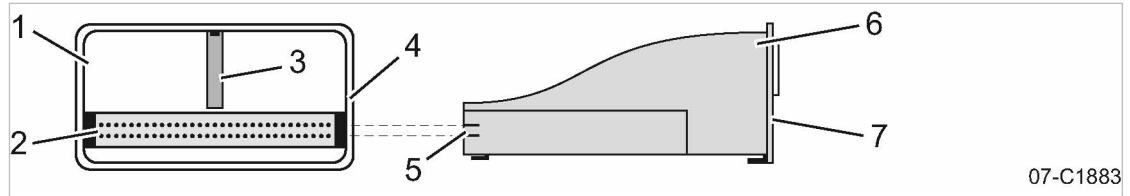

Fig. 32 Inserting the communication module
1. Align the communication module (6).
2. Insert the communication module into the bay of interface X4 (1) until it latches (see Fig. 32). The module is correctly installed when its front plate (7) is seated solidly in the recess of the module bay (4).